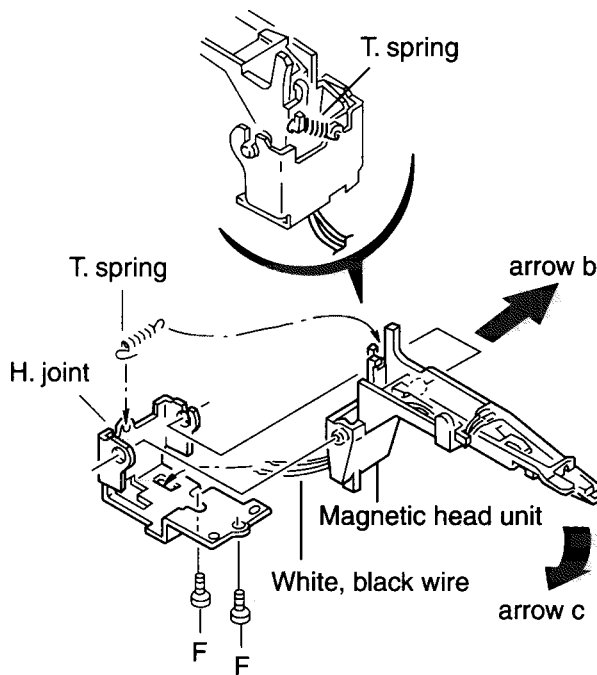

Fig.6
(see Fig.6 and 7)
Removing the MD pick up (see Fig.6 to 8)
2. Remove the two screws F attach the magnetic head unit. (see Fig.6)
(see Fig.6 to 9)